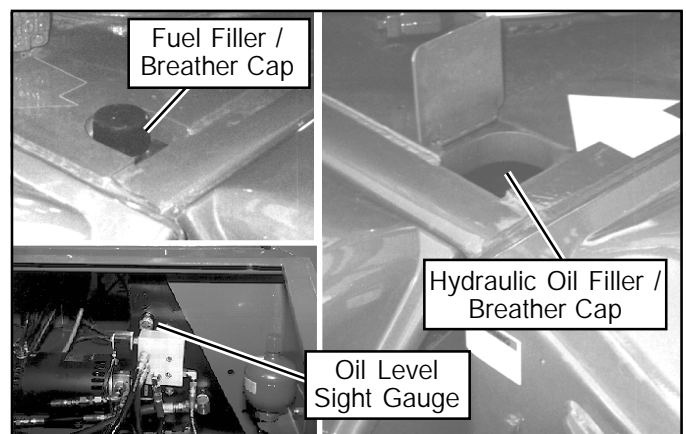

Figure 9: Hydraulic Oil Filler / Breather Cap, Fuel Filler / Breather Cap, and Oil Level Sight Gauge
2. Lift flap located on top of chassis right side (see figure 9).